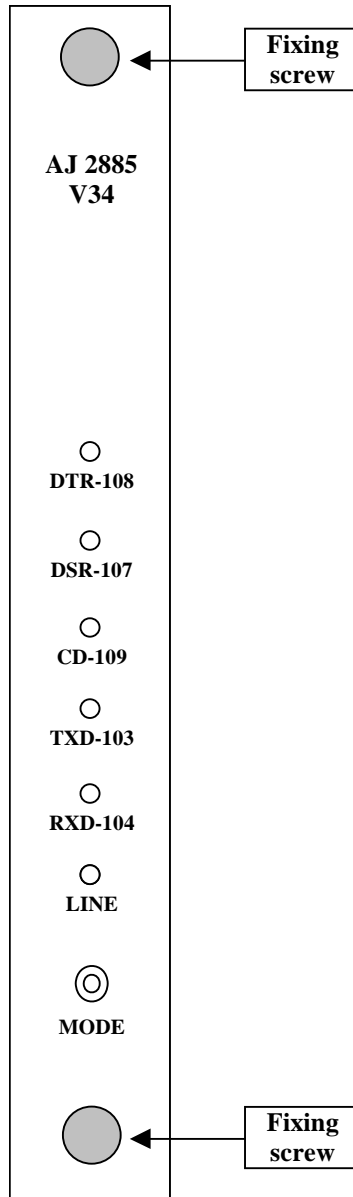

Figure 68: CXR 2885P, rackmount version – front view
- A2 (Indicators) aid is provided by the LEDs located on the front panel of the modem (Figure 68). The role of the different LEDs is detailed in the figures descriptions.